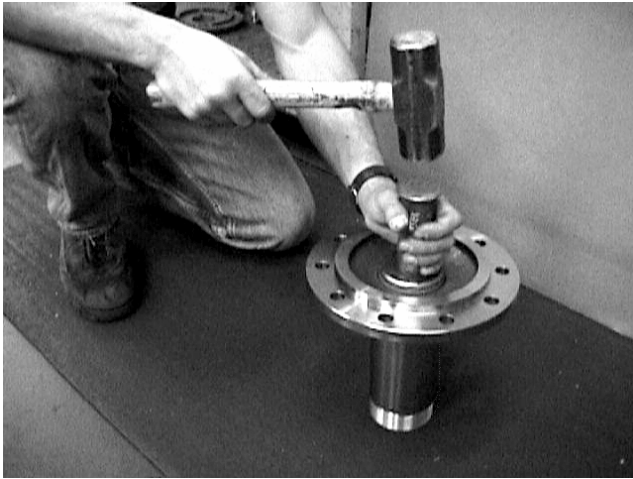

Figure 18
10. If the spindle sleeve bearing, 234-0448, has been removed, press a replacement bearing into the spindle. The groove in the bearing should be located $\pm 90^\circ$ from the large keyway on the outside surface of the spindle. **DO NOT PRESS THE TOP OF THE BEARING IN PAST THE SPINDLE CHAMFER!** Install the axle shaft seal in the spindle. See Figure 18. Grease the bearing's inner surface, and pack the cavity between bearing and seal with grease. Slide the spindle over the axle shaft and spindle yoke studs. The large keyway must be located at the 12 o'clock position.